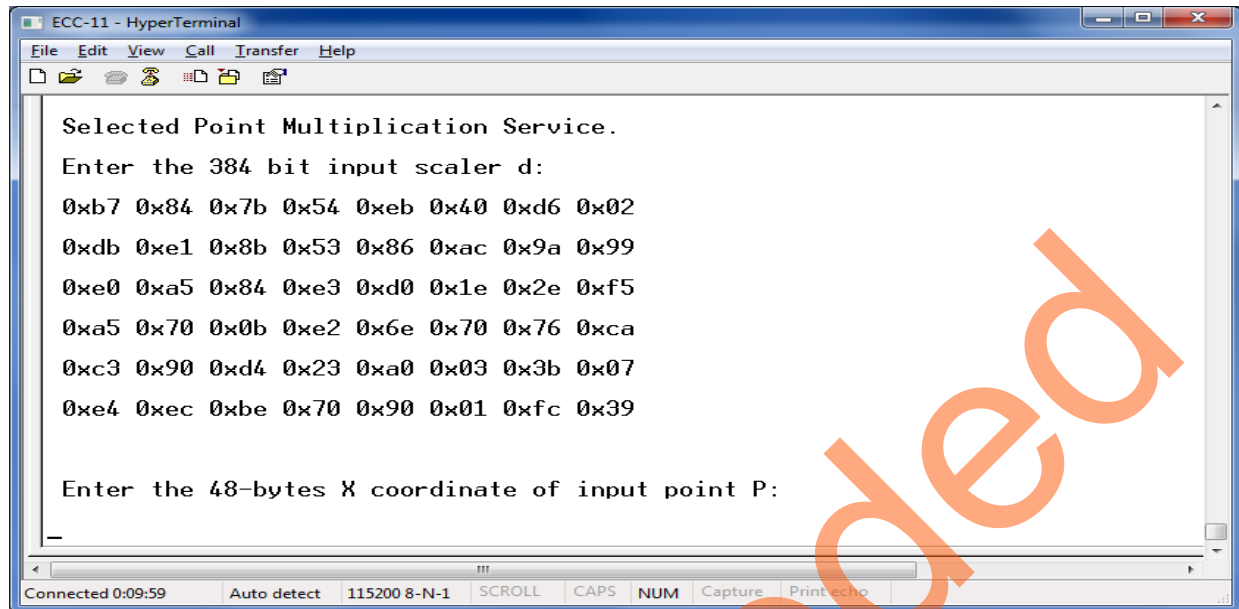

Figure 14 • Point Multiplication
- Enter **m** to perform point multiplication and enter the 384 bit input scalar D, as shown in Figure 14 on page 16.